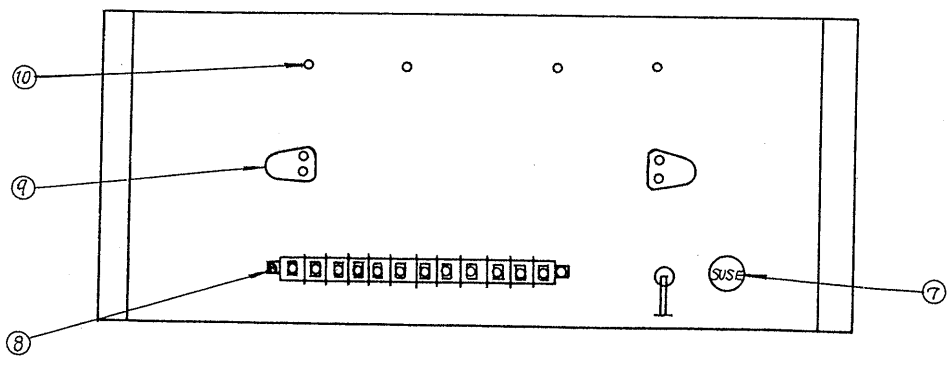

Fig. 3-2 Rear panel
3.2 Rear Panel Explanation (See Fig. 3-2.)
- (7) Output Fuse: This fuse (1 A) is used to protect the objective equipment connected to this power supply against damagingly large current which might occur when the power supply has become abnormal.
- (8) Rear Terminal Block: These terminals are used for modifications.
- (9) Cord Retainers: When the equipment is not in used, the power cord is wound on these retainers.
- (10) Holes to Mount an Overvoltage Protector and Overcurrent Protector: